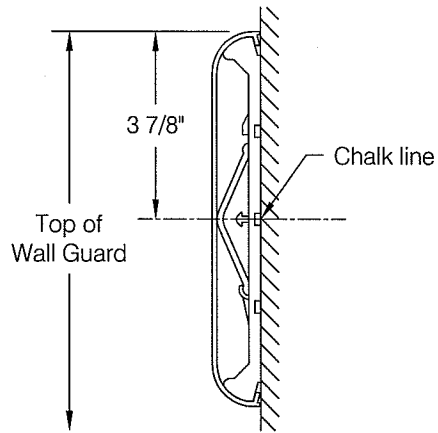

fig 1
Step 1: Determine top of wall guard height and snap a chalk line 3 7/8" below to locate centerline of wall guard and to provide a reference line for locating Quik Clip retainers, see **fig 1**.